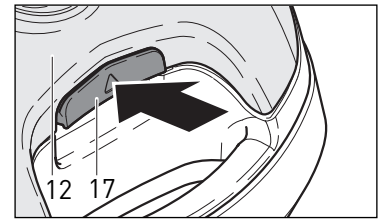
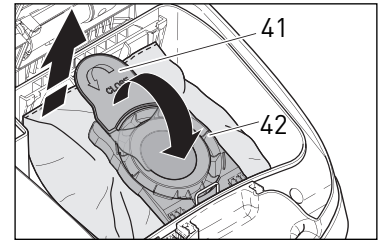
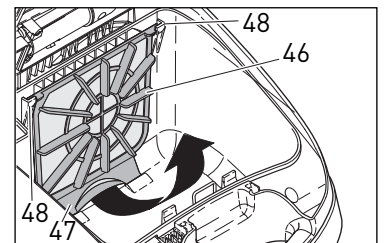

Figure 20
Figure 21
Figure 23
## Changing the Filter Bag - Figures 20, 21 & 22
To change the filter bag (40), lift the filter bag release catch (17, figure 20) then lift open the filter bag cover (12). Seal the used filter bag with the sealing cap (41). Tilt the green sealing plate collar up (42, figure 21) and lift the bag out. Slide the front of the sealing plate (42) of a new bag vertically into the bag holder (43, figure 22). Line up the sealing plate so that the U-shaped metal spring (44) is positioned in the slot (44) of the collar and tilt it back into place. Close the cover, making sure it snaps shut completely. The cover will not close if the bag is inserted improperly. Do not re-use the filter bags. **Note:** the nature of the contents of the filter bag will affect the point at which it needs changing. Fine dust may require an earlier change even though the bag is not full. Fluff or hair allows air to pass through easily, so the filter bag may overfill before the “bag full” indicator turns orange.
## Changing the Pre-motor Filter - Figure 23
The pre-motor filter (46) needs to be changed when it becomes extremely dirty or clogged with dust, or after approximately 10 to 20 filter bags have been used. To change the pre-motor filter, lift the filter bag release catch (17, figure 20), lift open the filter bag cover (12) and remove the filter bag. Grasp the tab at the bottom of the filter (47, figure 23) and pull the filter out and up. When the filter is horizontal, lift it out of the holder (48). Insert the new filter into the holder horizontally (48) then swing it downward until the the tab (47) locks into place. Replace the filter bag and the filter bag cover.
3. Pre-motor filter not properly inserted.	3. Remove the filter bag and make sure the pre-motor filter is seated firmly in place (see pg. 11, figure 23).